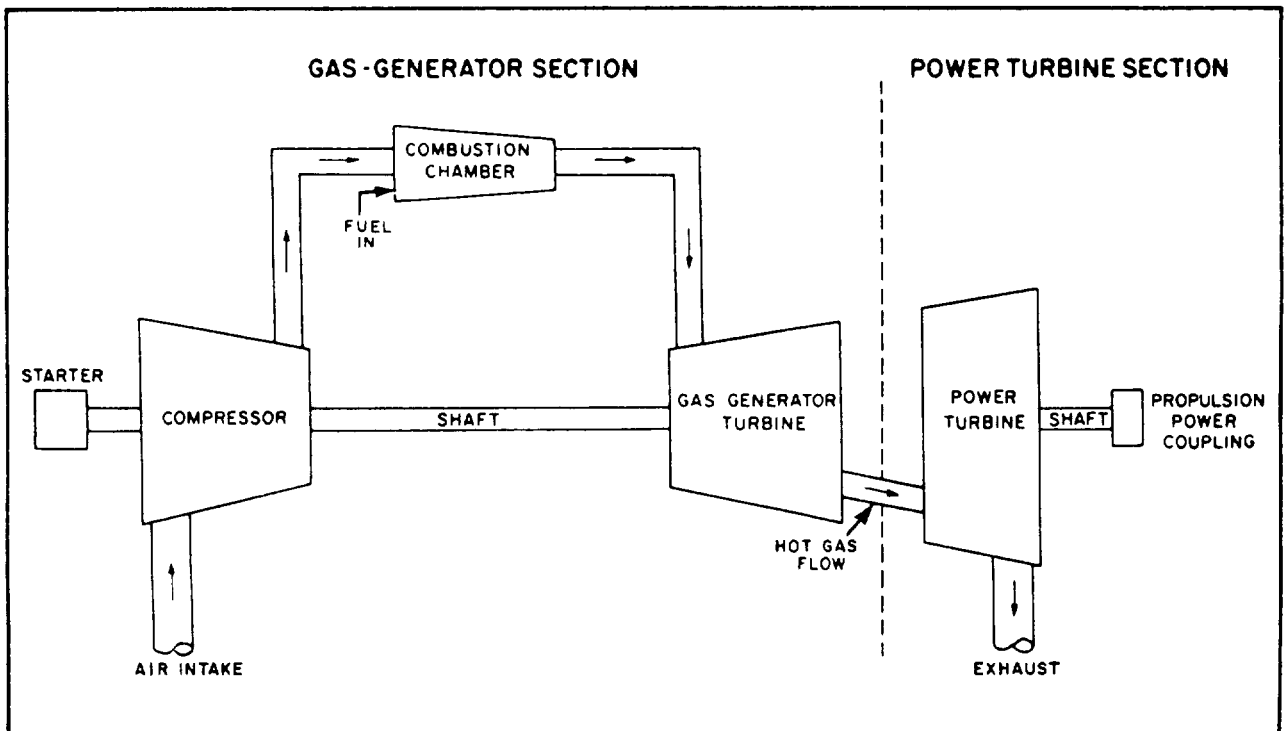
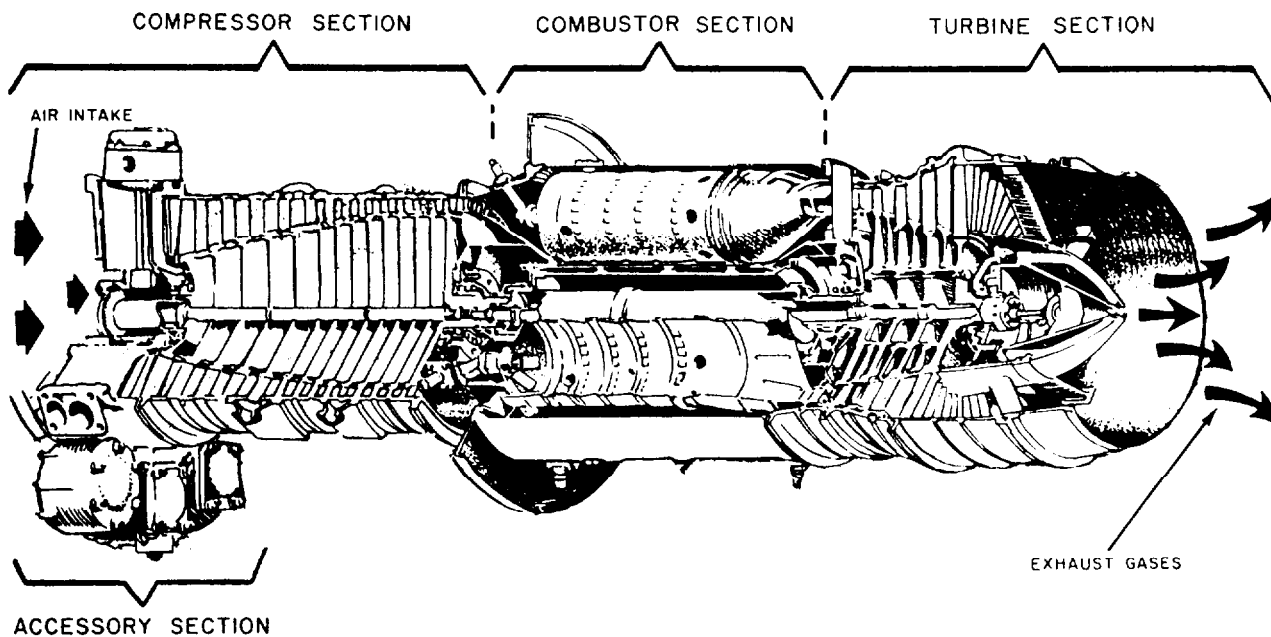

Figure 6-14.—Split-shaft gas turbine.
Figure 6-15.—Typical gas turbine.
In the split-shaft gas turbine (fig. 6-14), there is no mechanical connection between the gas-generator turbine and the power turbine. The power turbine is the component that does the usable work. The gas-generator turbine provides the power to drive the compressor and accessories. With this type of engine, the output speed can be varied by varying the gas generator speed. Also, under certain conditions, the gas generator can run at a reduced rpm and still provide maximum power turbine rpm. This greatly improves fuel economy and also extends the life of the gas-generator turbine. The arrangement shown in figure 6-15 is typical for propulsion gas turbines aboard the DD-963, FFG-7, CG-47, and PHM-1 class ships.
Recall that a gas turbine engine is composed of four major sections (fig. 6-15): (1) compressor, (2) combustor, (3) turbine, and (4) accessory. We will briefly discuss the construction and function of each of these sections. We will use the LM2500 gas turbine as an example. The LM2500 is a split-shaft gas turbine.
is that the gas turbine engine has only one moving part. This is not so. A gas turbine engine requires a starting device, some kind of control mechanism, and power takeoffs for lube oil and fuel pumps. The accessory drive section (fig. 6-15) of the gas turbine engine takes care of these various accessory functions. The primary purpose of the accessory drive section is to provide space for the mounting of the accessories required for the operation and control of the engine. The accessory drive section also serves as an oil